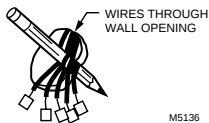

Fig. 2. Wrapping wires around pencil.
- ❑ Disconnect wires from old thermostat or subbase. As you disconnect each wire, use the wiring labels (enclosed) to label each wire with the old terminal designation. If there are only two wires, they do not require labeling. Wrap wires around a pencil to keep them from falling back into the wall as shown in Fig. 2.